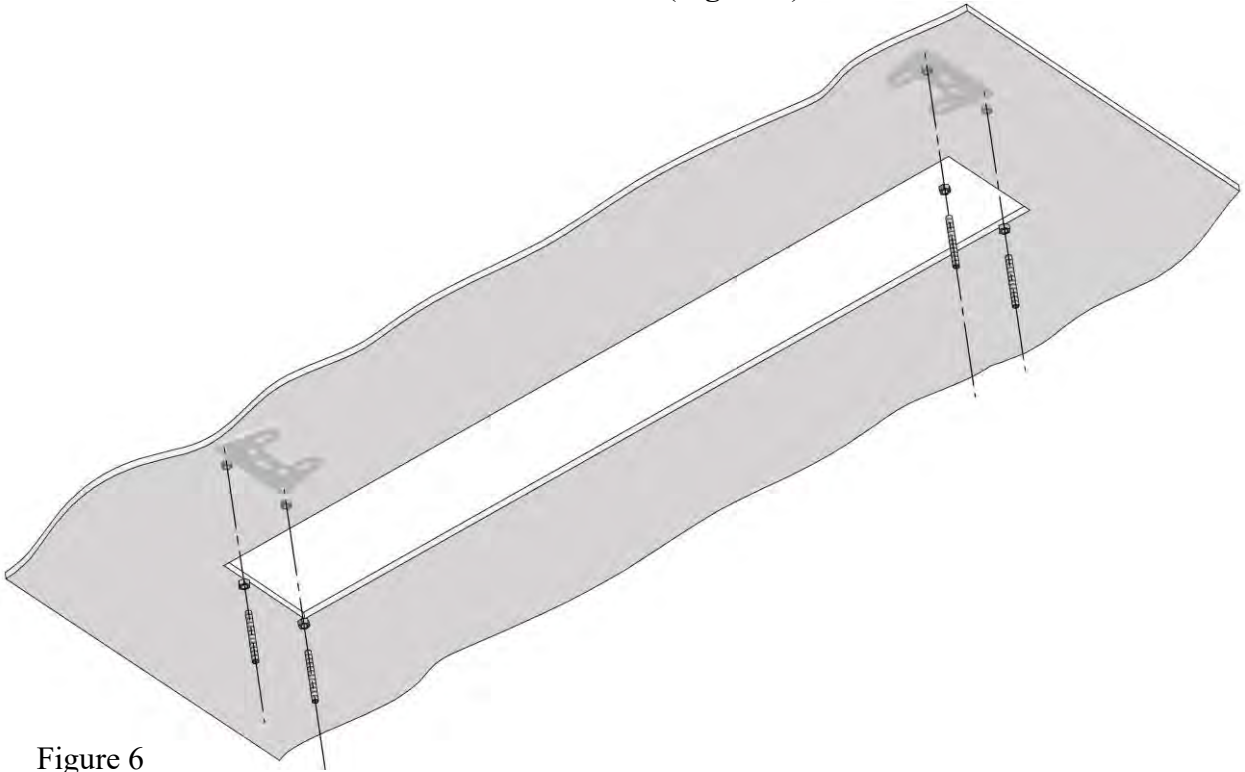

Figure 6
9. After cutting the adequate lengths of the rods, screw them into the sockets in the mounting brackets and then counter-lock with the M8 nuts (**Figure 6**).